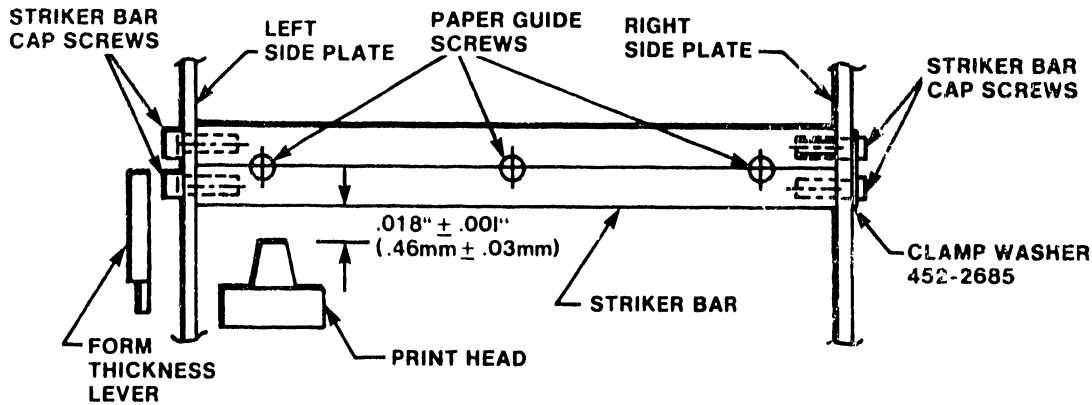

Figure 5-2 Print Head to Striker Bar Clearance
- a. Clean the front edge of the striker bar shown in Figure 5-2.
- b. Set the forms thickness lever shown in Figure 5-2 to position 1.
- b. Set the forms thickness lever, shown in Figure 5-2 to position 1.
- c. Using a $9/64"$ Allen wrench, loosen the two cap screws located at each end of the striker bar. See Figure 5-2 for screw location. Also loosen the three screws located on the top of the striker bar.